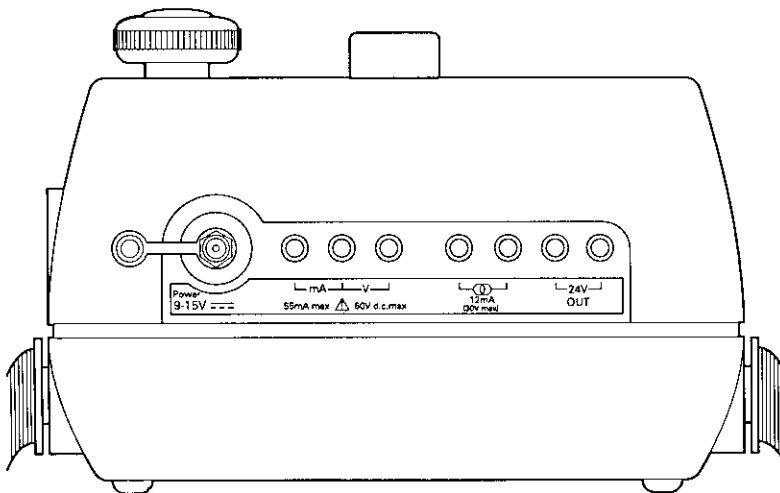

Figure 2.2 - Instrument Connections
- Remove the dust cover from the power inlet socket (see Fig 2.2) and insert the power unit/charger output connector. Input level is 9V dc at 500mA, centre pole negative. A set of fully discharged batteries will require 14 hours to recharge.
2.3 Electrical Connections(Figure 2.2)
Electrical connections are made to the panel located on the top end of the instrument, (refer to Figure 2.2). These comprise the following.